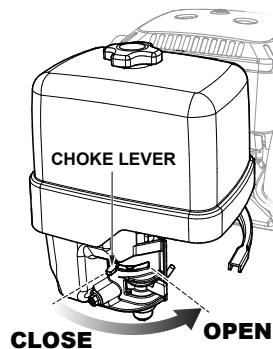

Figure 17. Engine Choke Lever (Open)
5. If starting a warm engine or starting in warm weather, place the choke lever (Figure 17) in the **OPEN** position.